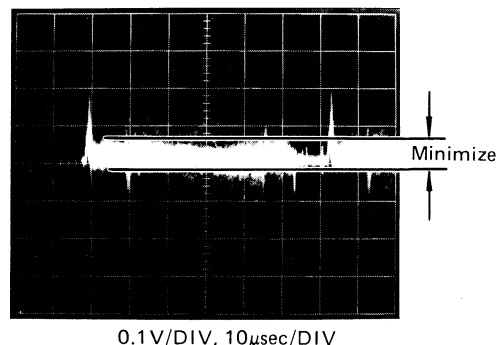

Fig. 4-2-47
- Adjust B TRACKING-2 VR6 and B TRACKING-3 VR8 so that the B-YL signal becomes minimum. (Fig. 4-2-47)